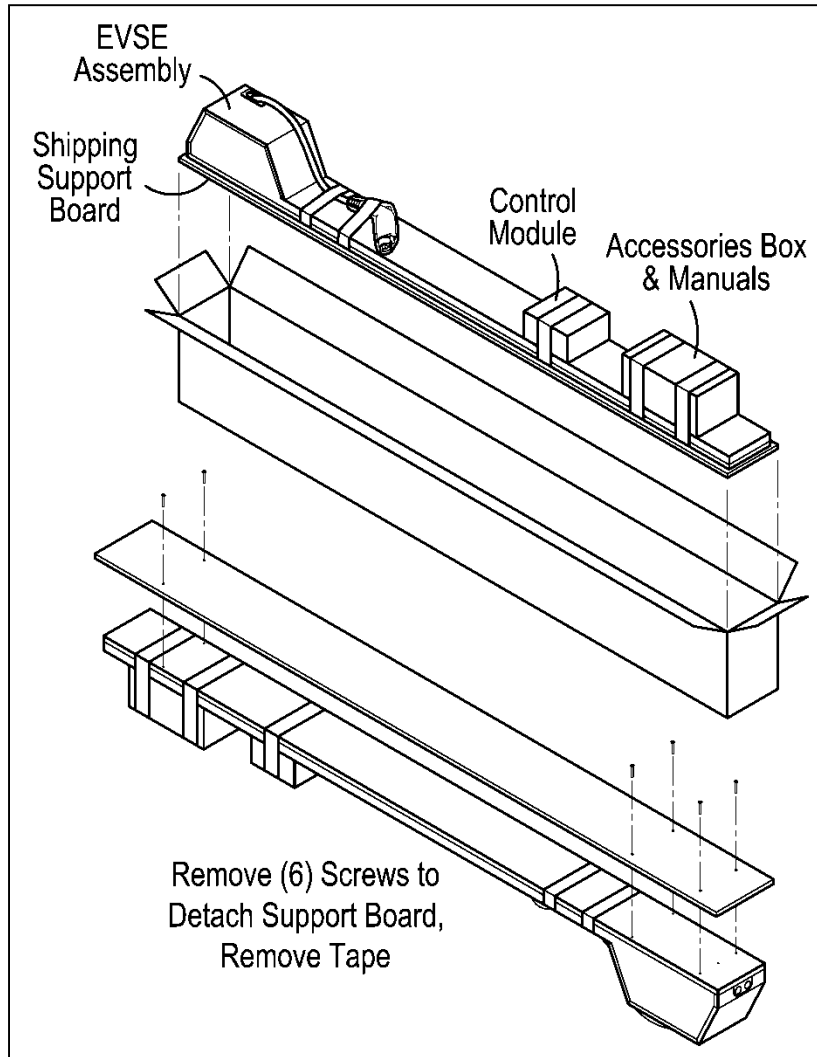

Figure 4
3. Place the EVSE Unit on a suitably padded surface in an upside down position (**Figure 4**).